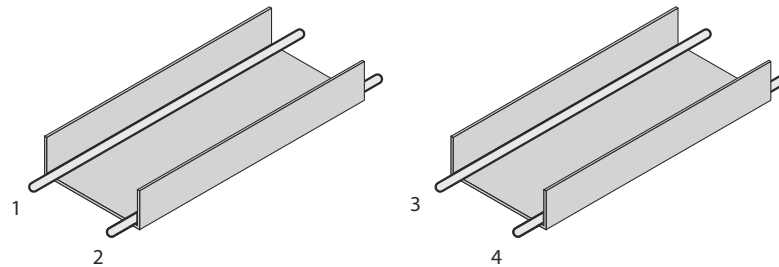
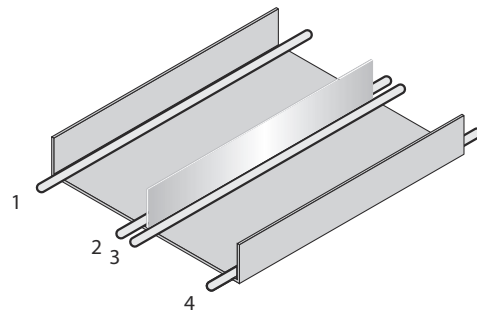

Figure 5: Ideal laying - Place cables in different cable channels
Figure 6: Alternative laying – Separate cables with metallic separators
- ▷ Route the cables in groups 1, 2 and 3, 4 in different cable channels or use metallic separators (see figure 5 and see figure 6). This applies particularly if cables of devices with a high level of radiated emission, such as frequency converters, are laid parallel to sensor cables.